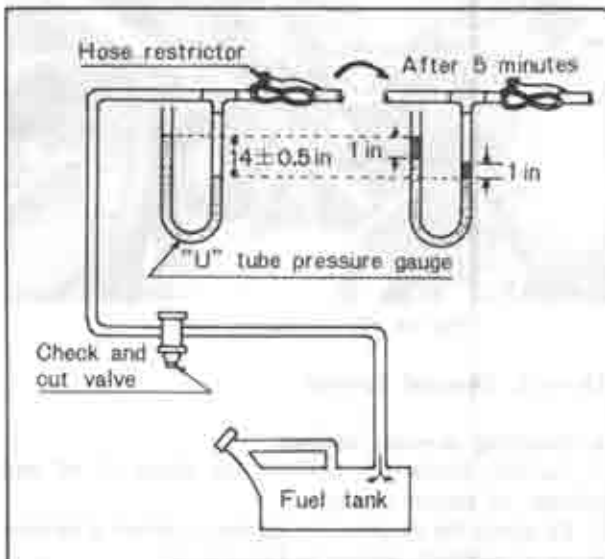

Fig. 1A-36 Checking evaporative line
2. Connect the "U" tube pressure gauge to disconnected ventilation hose as shown in Fig. 1A-36.